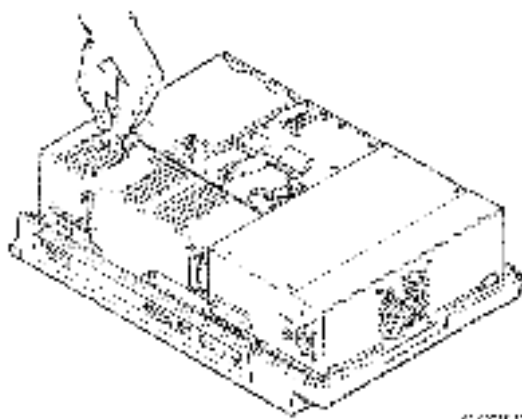

Figure 2-46 Cables Connected to I/O Board
3. Disconnect any cables connected to the I/O board through the card cage slots. You can disconnect each cable by pulling straight up on the white cable pull (Figure 2-46).